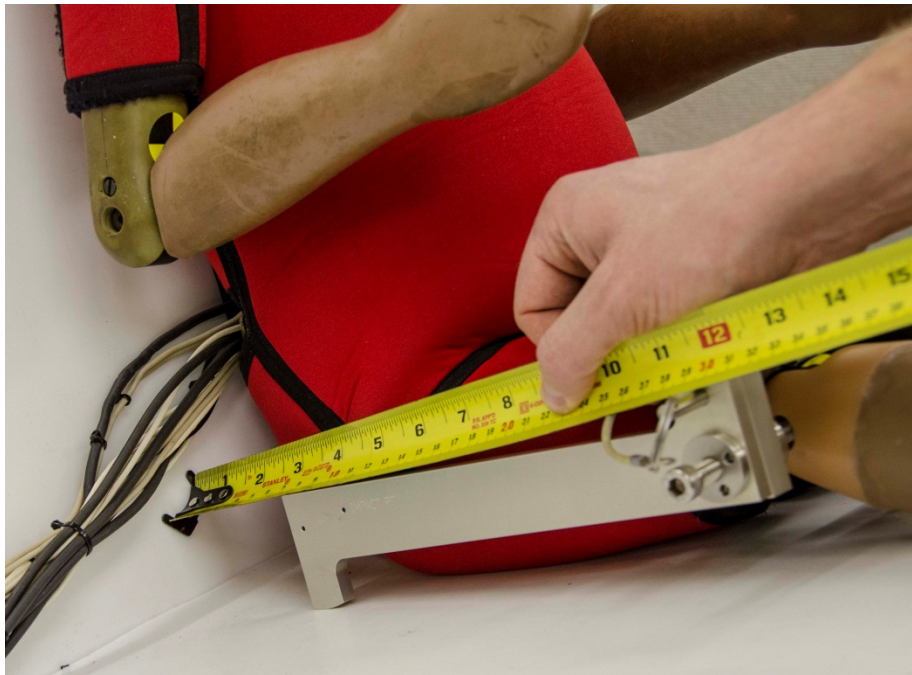

Figure 69. Squaring the dummy to the seat using the Q3s positioning tool
- Adjust the pelvis position so that both left and right extensions of the Q3s positioning device are equidistant from the seatback (Figure 69). This “squares” the dummy with the seat.